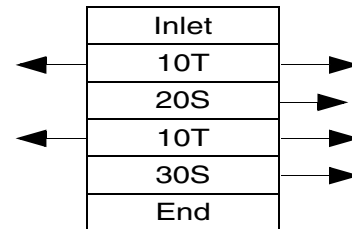

FIG. 14
- a. Before disassembling any divider valve, make a sketch and note the arrangement of the Valve Sections. For example: INLET 10T - 20S - 10T - 30S - END (FIG. 14). Also remove end plugs only and try to move each piston back and forth without removing the piston from the valve section.